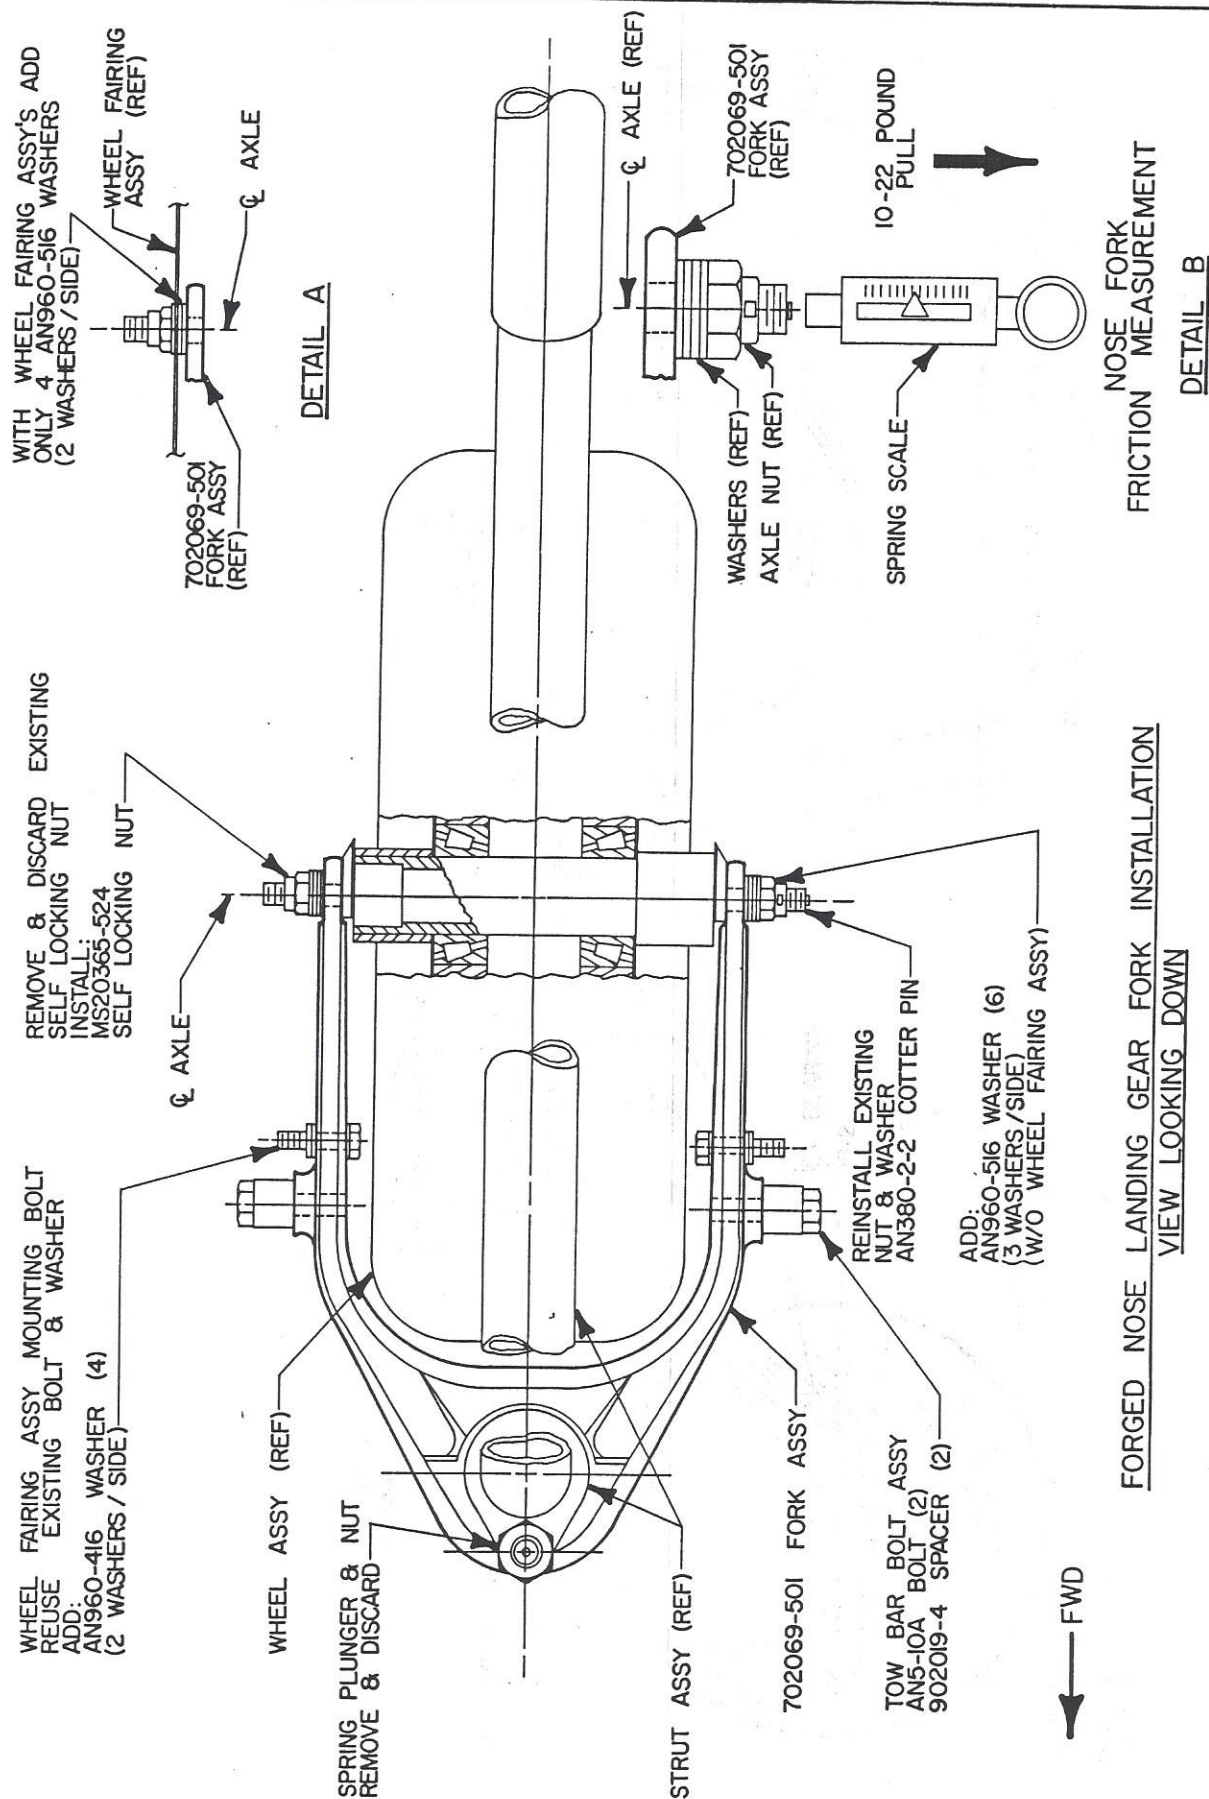

FIGURE 1
- B-2 Remove the Nose Landing Gear Fork Assy. and discard hardware used to attach fork to strut. If SK-107A has been complied with, proceed to Step B-3. If SK-107A has not been complied with remove spring plunger and nut and discard. See Figure 1.
- C-1 Install wheel fairing, if removed, on Fork Assy. using hardware retained in Step B-4. Add additional AN960-416 Washers (2) to act as shims as shown in Figure 1.
- C-2 Install AN5-10A Bolts (2) and 14-902019-4 Spacers on 702069-501 Fork Assy. See Figure 1.
- C-3 Install Wheel Assy. using hardware retained in Step B-3. Add AN960-516, -516L Washers as shown in Figure 1. Install new MS20365-524 Nut (Self Locking) and AN380-2-2 Cotter Pin in axle nut. Tighten axle nut until slight drag is felt while rotating wheel. See Figure 1, Detail A.
- C-5 With fork installed on strut, tighten AN320-10 Nut to obtain a force of 10-22 lbs. pull (Running Force), using a spring scale attached to fork at wheel center line (Axle). This sets the nose fork friction (anti-shimmy). Temporarily insert MS24665-353 cotter pin in Nut each time a measurement is taken. See Figure 1, Detail B.